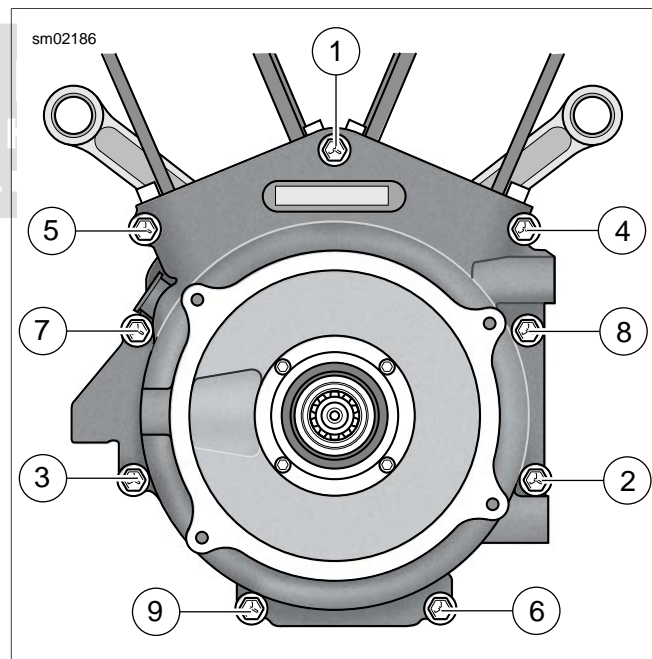

Figure 3-56. Tightening Crankcase Bolts
9. See Figure 3-56. Start the nine crankcase bolts and tighten in the following sequence.